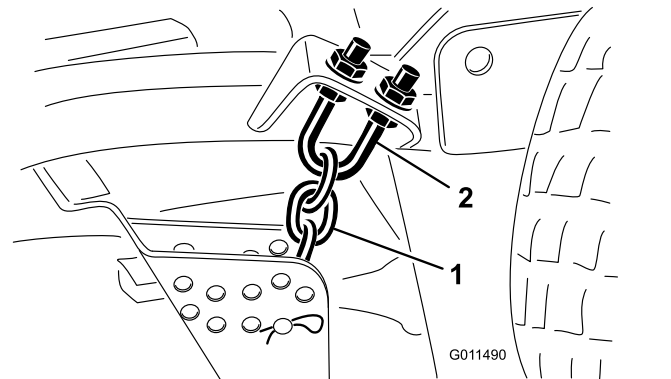

Figure 103
1. Loosen the jam nuts on the top or bottom of the height-of-cut chain U-bolt (Figure 103).